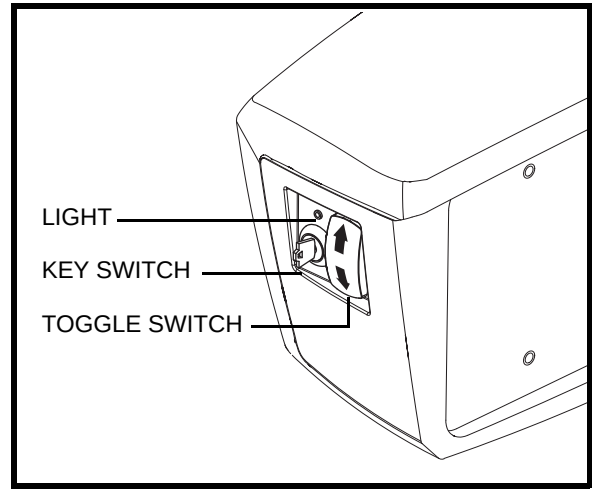

Figure 14. Key Switch and Toggle Switch Operation
2. Use the toggle switch to raise or lower the lift system. See figure 14.